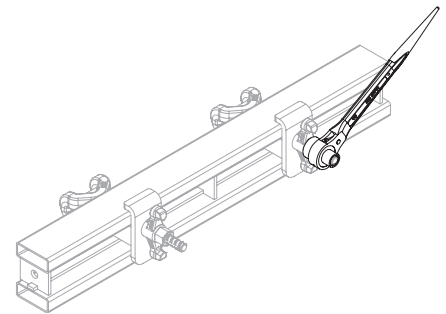

Fig. A5.06
- The nuts (**33.2**) can also be tightened with the Ratchet MX 15 (**36**). (Fig. A5.06)